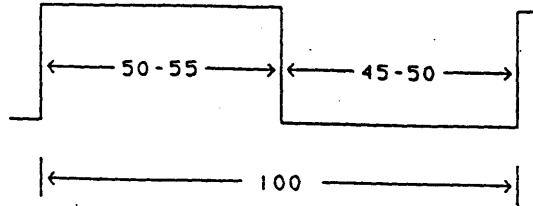

FIGURE B.2.2 ADP MONOSTABLE WAVEFORM
- (viii) examine the oscilloscope trace for channel 2, this must be adjusted to a 50/50 mark/space ratio or within the limits of Figure B.2.2. Alter the mark/space ratio by pressing the 'tens' and 'units' buttons until Figure B.2.2 limits are achieved. Press 'run/stop' to store the new value.